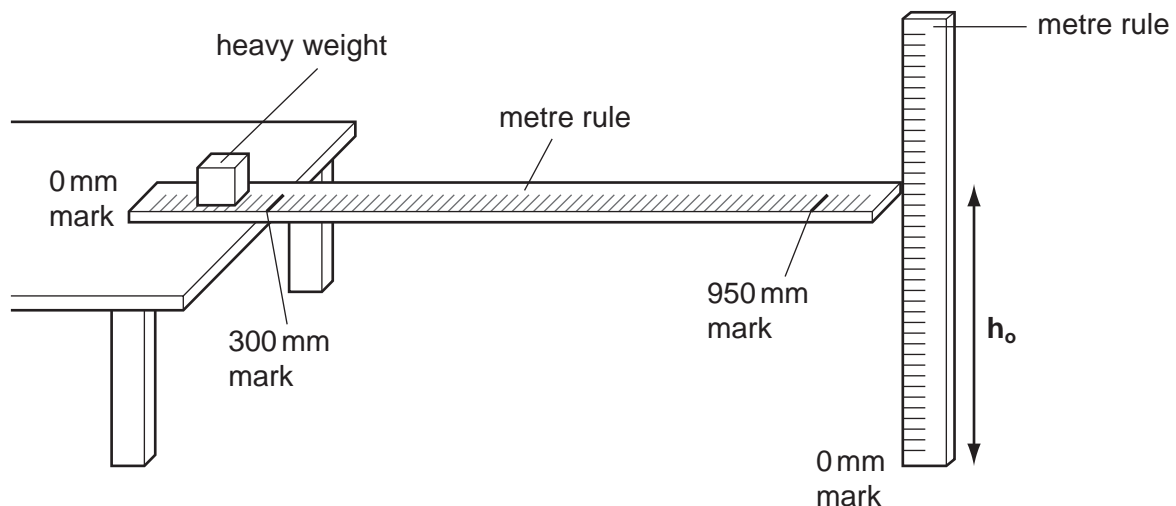

Fig. 2.1
- (ii) a lump of plasticine or clay of suitable mass to give a deflection of at least 50 mm when added to the 950 mm mark on the ruler. See Fig.2.1 below;
Candidates will be required to fix a metre rule to the bench, see Fig. 2.1, and add lumps of plasticine to the rule producing a suitable deflection. If only plastic rules are available it will be necessary to check carefully (ii) above and state the use of such rulers in the information provided to the examiner.